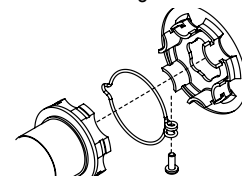

Figure 2
- ② Remove cotter pin from idler assembly.
- ③ Remove locking screw from motor retainer ring, then expand motor retainer ring around the motor-end bracket (see Fig. 2).
- ④ The idler is spring-loaded. Push motor/roller assembly toward the idler end. Remove motor from motor mount, then remove idler end.
- ⑤ Mount the case using mounting brackets. A long-handled driver will allow you to access the bracket mounting holes through the knockouts.
- ① Make sure motor retainer ring is expanded around the motor end bracket (see Fig. 2, page 1).
- ③ Ensure that the motor retainer ring is properly installed around the grooves in the motor and the motor end bracket (see Fig. 2, page 1).
- ④ Install the motor retainer ring screw and tighten (see Fig. 2, page 1).